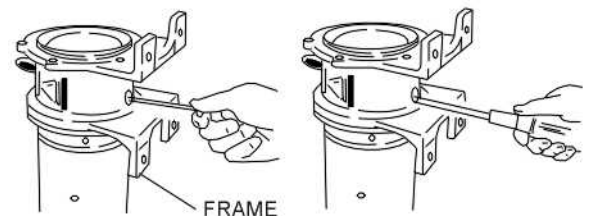

Figure 16
Stand the motor upright and remove two M4 hex head socket set screws from the access hole in the frame (15). Insert a screwdriver and apply it to the boss (lower portion) of the outer magnet assembly and pull or lever the unit upwards. [Fig. 16]. Store the magnet unit in a proper place so that no metal pieces, etc. are attracted to it.